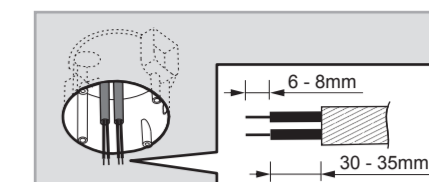

FIG.8
- 4.4.1.2 Pull out AC power cables from junction box then strip off 6 - 8mm of cable sheathing for wiring (See FIG.8).